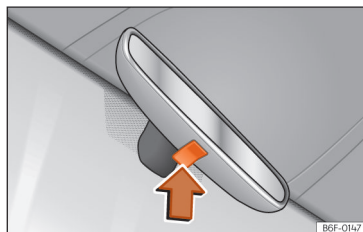

Fig. 89 Manual anti-dazzle function for rear vision mirror
- To darken the rear view mirror, press the mirror button updates >>> Fig. 89 (arrow).